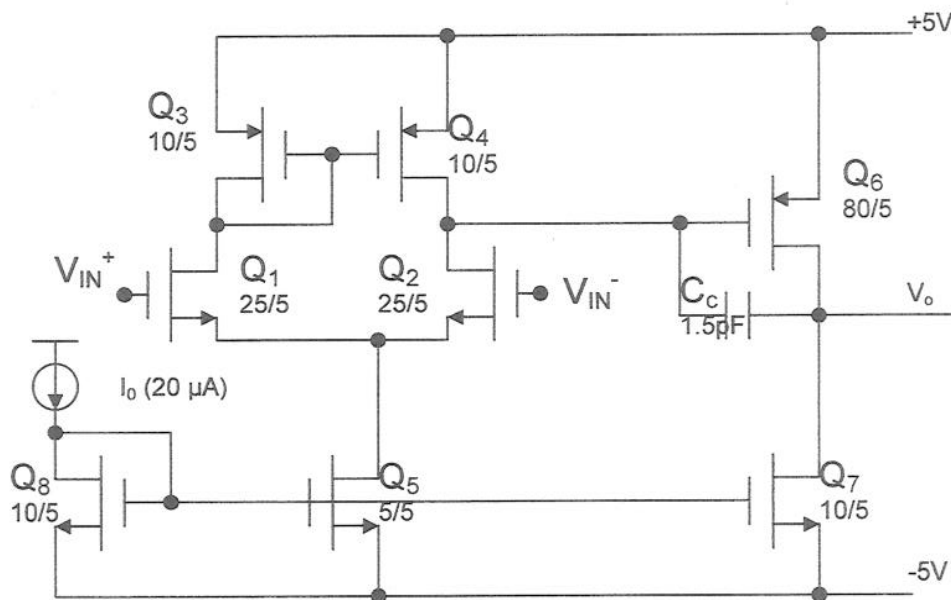

Figure 3.1
- (b) Estimate the low-frequency differential voltage gain, and, gain-bandwidth product of the two-stage CMOS op-amp shown in Figure 3.1. Aspect ratios of all devices are shown on the circuit. Assume all bulk effects are negligible. Device model parameters are given below.